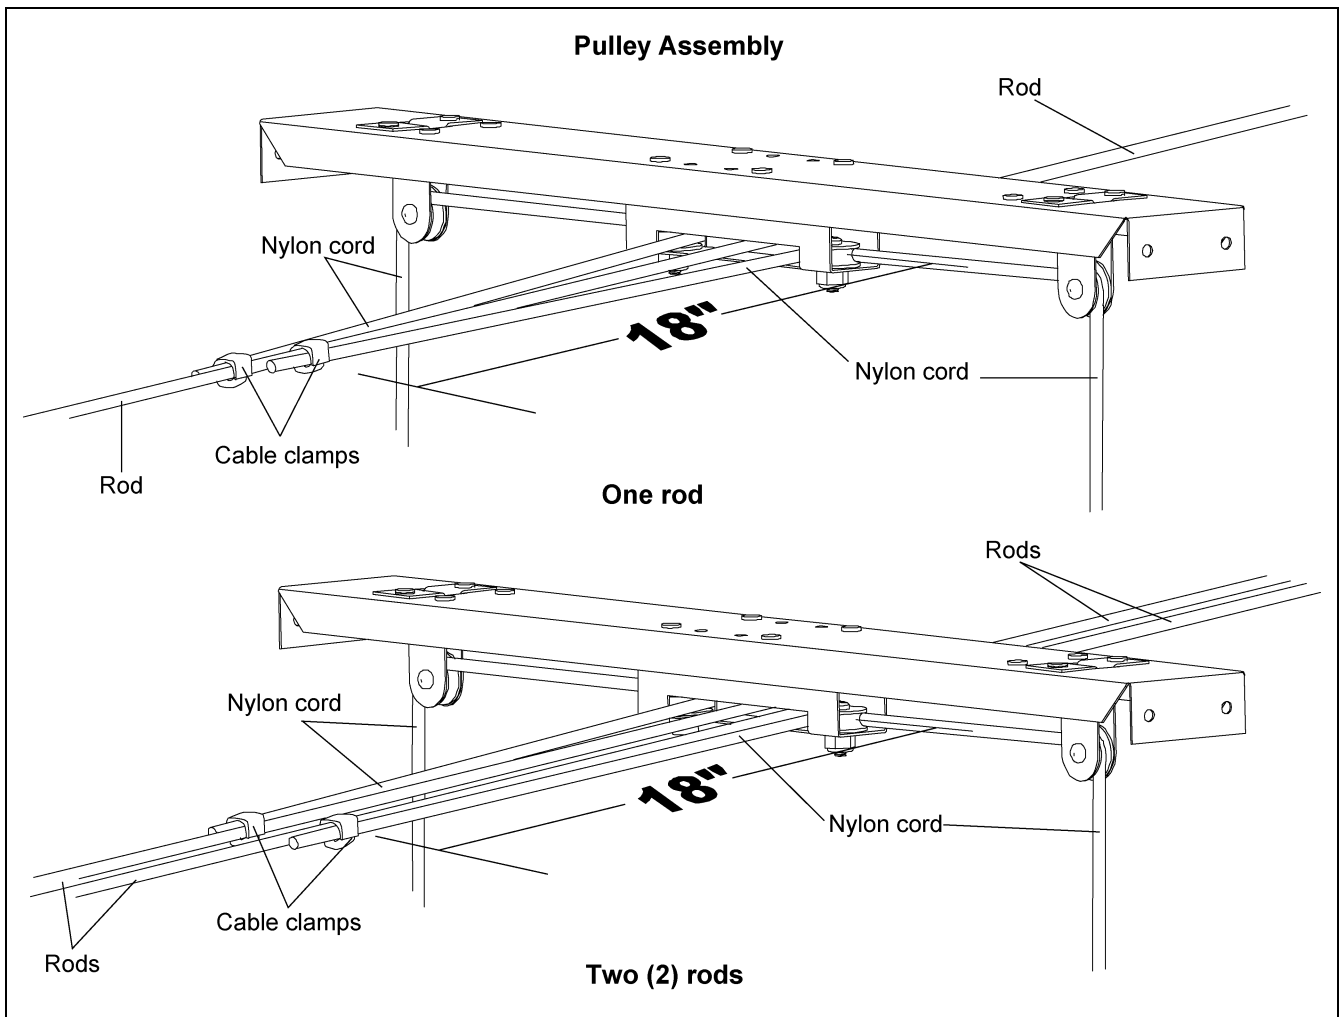

Figure 10
6. Measure 18" from center of pulleys and fasten the nylon cord to the 1/8" rod using a 1/8" cable clamp. (See Figure 10 on Page 5.)
6. Measure 18" from center of pulleys and fasten the nylon cord(s) to the 1/8" rod(s) using a 1/8" cable clamp(s). (See Figure 10 on Page 5.)